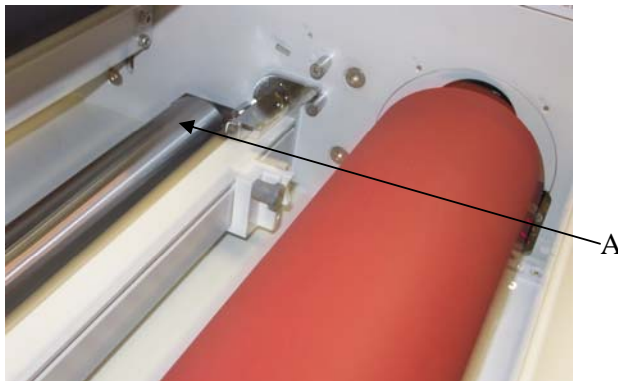

Figure 7
**Removable Chill Idler:** (Fig. 7 – Item A)